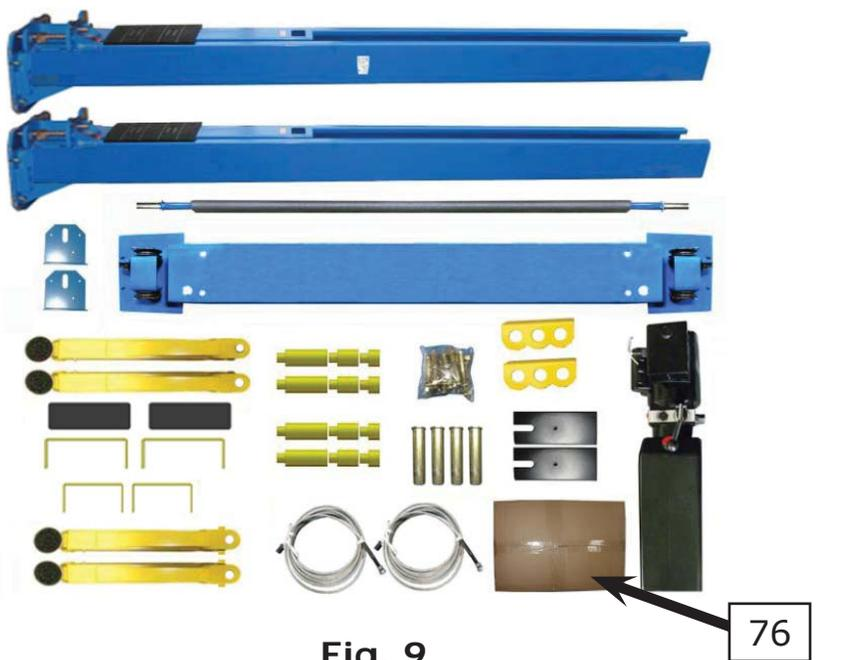

Fig. 9
5. Move aside the parts and check the parts according to the shipment parts list (See Fig. 9, 10, 11, 12).